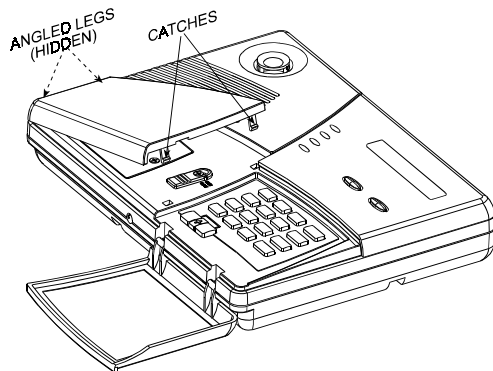
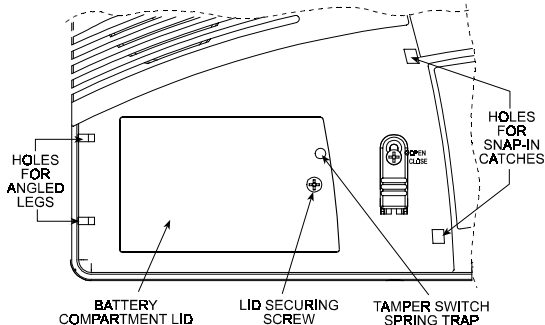

Figure 2. Removing the Battery Area Cover
Figure 3. Battery Area after Cover Removal
C. Swing the cover up as shown in Figure 2, then pull free the angled legs at the left and put the cover away. The inner lid will now be in full view (see Figure 3).
- D. Remove the screw that secures the lid (see Figure 3), swing the lid up and pull it away. You now have access to the battery holder (see Figure 4).